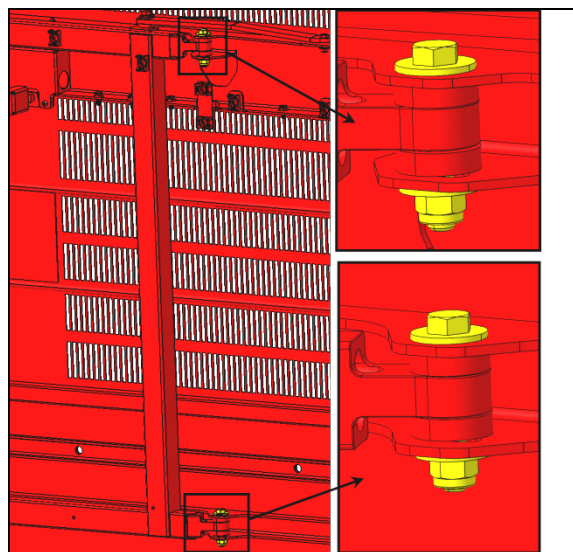

FIGURE 108
4. If the vertical position is out of tolerance, rotate the door using the adjustment provided on the inner side of the door, at the attachment points between the arm and the door (FIGURE 108).